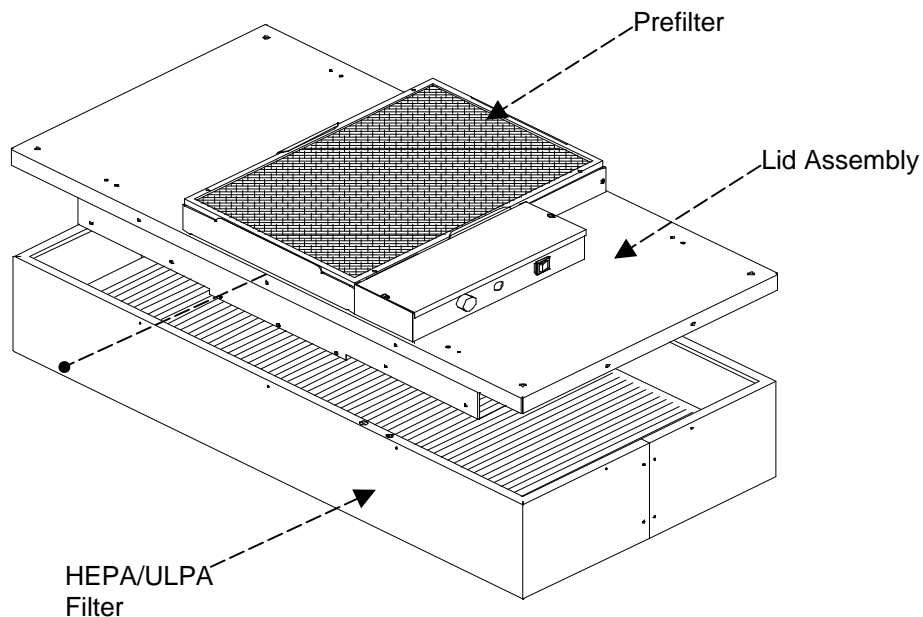

Figure 3 – Standard Filter Replacement
Step 3. Lift the lid assembly off the HEPA/ULPA filter (see Figure 3). Discard the used filter as per requirements of the applicable regulations.